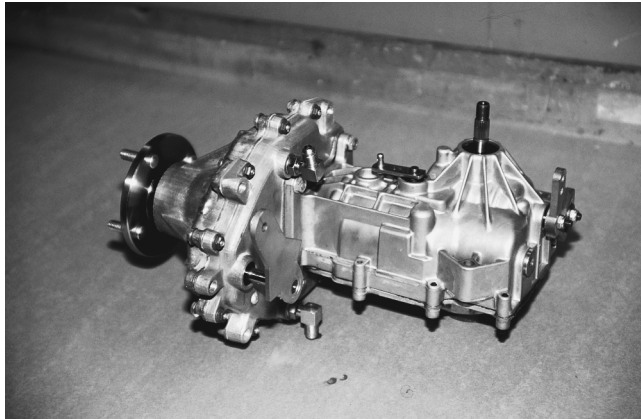

FIGURE 1.
1. REMOVE TRANSMISSION FROM TRACTOR. See figure 1.